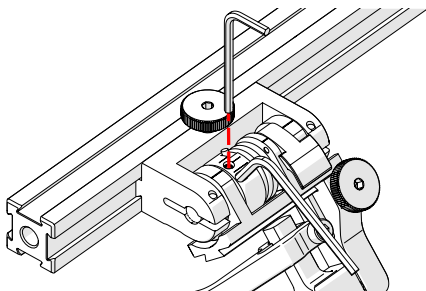

Fig. 67 - Insert hex wrenches
4. Place the 2 mm hex wrench into the force adjustment screw (Fig. 67).